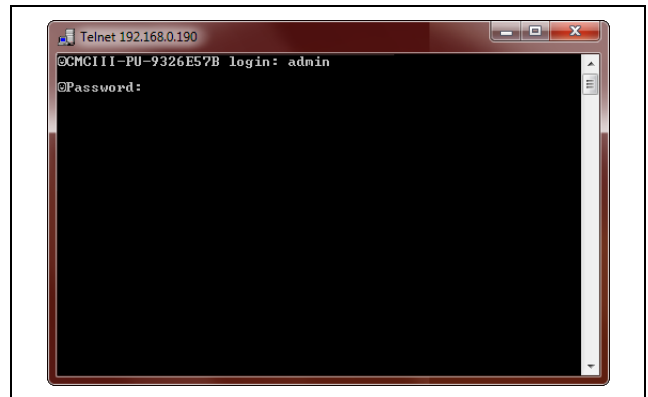

Fig. 14: Login page
- Press the "Return" key once to display the login page. This corresponds to the login page for a Telnet connection (fig. 14).